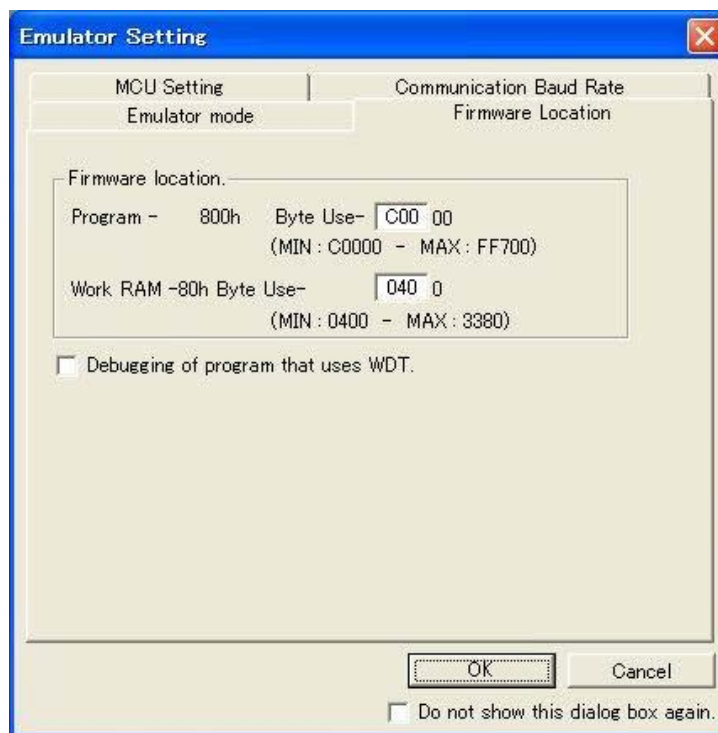

Figure 6.1 [Firmware Location] Tab of the [Emulator Setting] Dialog Box
- When starting the debugger, the [Emulator Setting] dialog box shown in Figure 6.1 is displayed. Specify the area which will not be used in the user system. The data area cannot be specified.